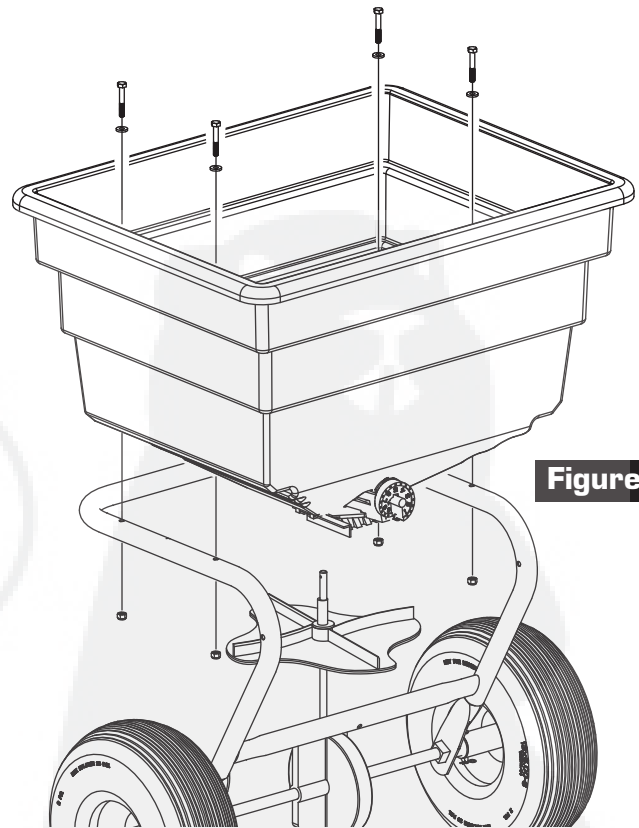

Figure 5
7. Place hopper onto frame. **IMPORTANT!** Note orientation of rate dial. Be sure to slide spinner shaft into hopper, Figure 5.
8. Insert 1/4" Nylon Washer onto 1/4-20 x 1-3/4" Bolt. Insert through hopper and frame. Attach finger tight only with 1/4" Nylon Insert Locknut, Figure 5. Repeat for remaining 3 bolts, washers, and nuts. Tighten fully.